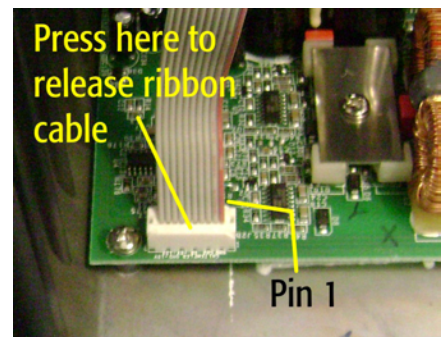

Figure 2. Press down on the housing to release the ribbon cable; insert cable into housing to reattach.
5. Lift the faceplate up and use a small screwdriver or other implement to press down on the white housing to release the ribbon cable (see Figure 2). Set the faceplate out of the way.
9. Reassemble the power module in the reverse of its disassembly. Ensure that Pin 1 of the ribbon cable is oriented correctly (see Figure 2); the ribbon cable simply inserts into the white housing until it grips the wire ends securely.